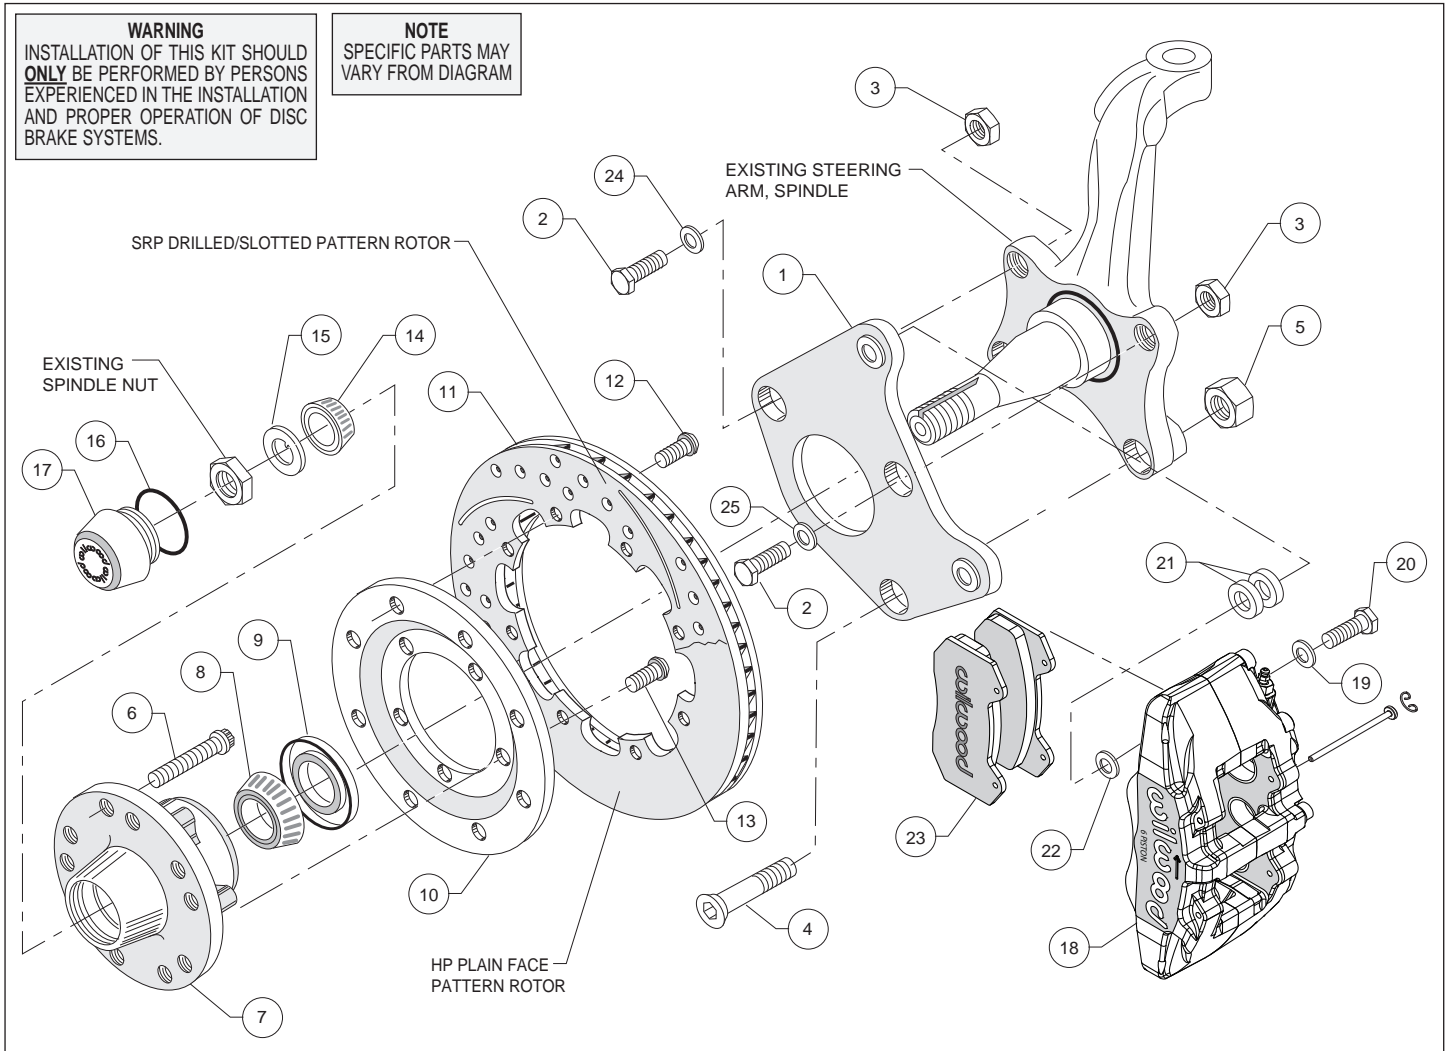

Figure 1. Typical Installation Configuration
- Apply red *Loctite*® 271 to bolt threads (2 and 4) before assembly of the caliper bracket (1) to backing plate face of spindle. Then install bolt (4) through caliper bracket (1), spindle face and the steering arm. Finger tighten the bolt (4) with lock nut (5). Install and finger tighten two bolts (2) with lock nuts (3). Torque two bolts (2) to 47 ft-lb. Torque bolt (4) to 140 ft-lb. **NOTE:** Be sure the heads of the caliper bracket (1) insert nuts are facing outward toward the wheel.
- Install five new wheel studs (6) into the hub (7). Torque to 77 ft-lb. **NOTE:** There are two five lug patterns in the hub (5 x 4.00 and 5 x 4.50). Make sure of the correct hole pattern for the correct wheel application before installing studs into hub.
- Pack the large inner bearing cone (8) with high temperature disc brake bearing grease (available from your local auto parts store) and install into the backside of the hub (7).
- Install the grease seal (9) by pressing into the backside of the hub (7).
- Orient the rotor (11) and the rotor adapter (10) as shown in Figure 1. Attach the rotor to the adapter using bolts (12). Using an alternating sequence, apply red *Loctite*® 271 to the threads, and torque to 25 ft-lb.
- Mount the adapter/rotor assembly (10/11) to the hub (7) using bolts (13), as shown in Figure 1. Using an alternating sequence, apply red *Loctite*® 271 to the threads, and torque to 55 ft-lb.
- Pack the small outer bearing cone (14) with high temperature disc brake bearing grease. Lightly coat the spindle bearing surfaces with bearing grease. Slide the hub/rotor assembly (7 and 11) with outer bearing cone (14) onto the spindle. Secure using spindle washer (15), existing adjusting nut and nut locking device.
- Remove the two pad retaining pins from the caliper (18) by carefully popping out the pin retaining clips and sliding out the pins. Insert the brake pads (23) into the caliper from the bottom, Figure 1, with the friction material facing the rotor. Secure the brake pads in place with the pad retaining pins and clips. Reinstall the caliper onto the caliper mounting bracket. Apply red *Loctite*® 271 to bolt threads (20), and torque to 40 ft-lb.